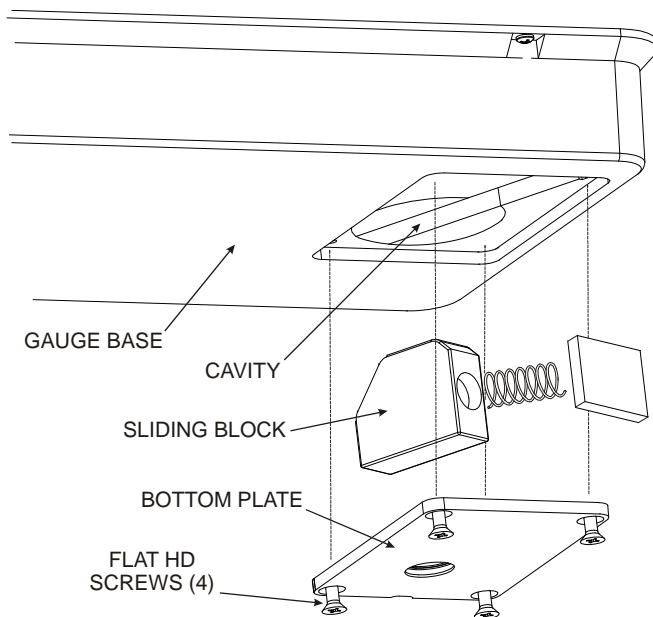

Figure A-3. Cleaning the Tungsten Sliding Block
- ✓ Clean the heads of the four corner screws that hold the bottom plate to the gauge base (Figure A-3). Using a Phillips screwdriver, remove the four screws in the corner of the plate and remove the plate.